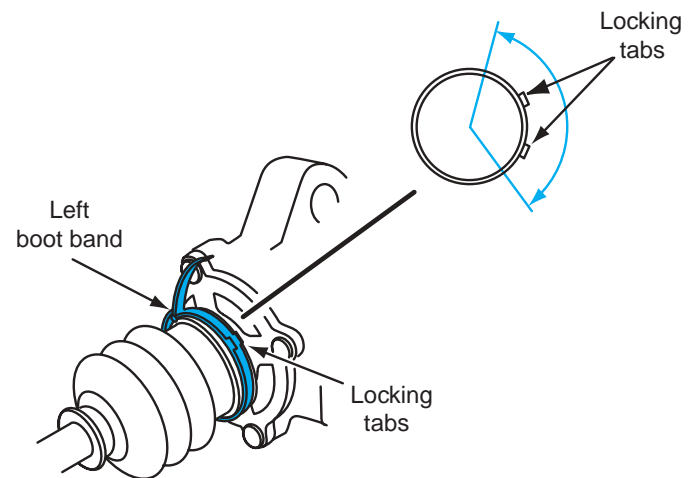

Figure 13-18 Proper boot band position in relation to the actuator housing.
8. Install the boots on the actuator housing; then install the boot bands with the locking tabs properly positioned in relation to the actuator housing (Figure 13-18).